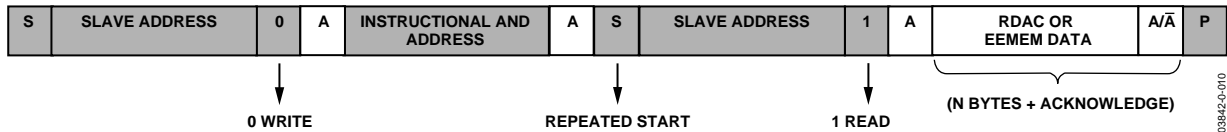

Figure 30. RDAC or EEMEM Random Read
Figure 30 illustrates the random RDAC or EEMEM read operation. This operation allows users to specify which RDAC or EEMEM register is read by first issuing a dummy write command to change the RDAC address pointer, and then proceeding with the RDAC read operation at the new address location.
3. In current read mode, the RDAC0 data byte immediately follows the acknowledgment of the slave address byte. After an acknowledgement, RDAC1 follows, then RDAC2, and so on (there is a slight difference in write mode, where the last eight data bits representing RDAC3 data are followed by a no acknowledge bit). Similarly, the transitions on the SDA line must occur during the low period of SCL and remain stable during the high period of SCL (see Figure 34). Another reading method, random read method, is shown in Figure 30.